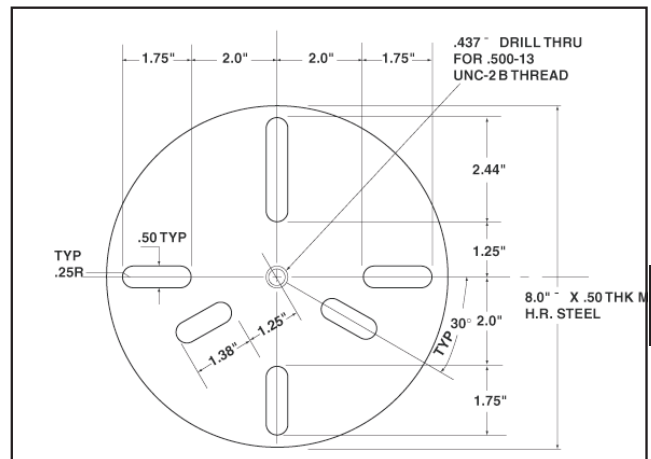

Figure 14: Dimensions for Universal Fixture (PN: AC2394)
- Insert threaded rods into the tapped holes in the gland plate and install a fixture on the threaded rods to use a puller. See Figure 14 for Dimensions of Universal Fixture (PN: AC2394). Using the puller, tighten the
9. Insert threaded rods into the tapped holes in the gland plate and install a fixture on the threaded rods to use as a puller. See Figure 14 for dimensions of Universal Fixture. Using the puller, tighten the bolt in the center of the fixture to remove the bearing and gland plate from the shaft. If the bearing does not come off the shaft, insert a spacer between the center bolt and the shaft, and retighten the bolt. Remove the inboard bearing and gland plate in the same manner. See Figures 15 and 16.